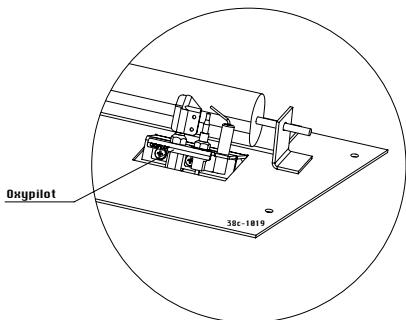

Fig. 1
2. Fine adjustment jet (fig 1)
3. Adjusting the burner pressure (fig 1,2)